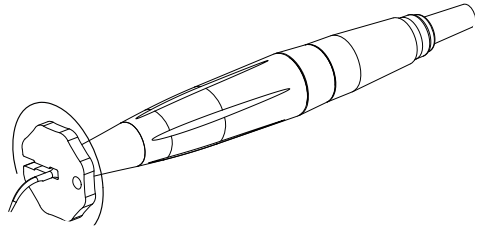

Fig. 5 Tip Tightening with Wrench
3. Sterilize the tips prior to first use (see section 5.1. "Sterilization"). Select the appropriate tip, and connect it by screwing it on with the supplied wrench. Tighten it moderately (see Fig. 5 below).